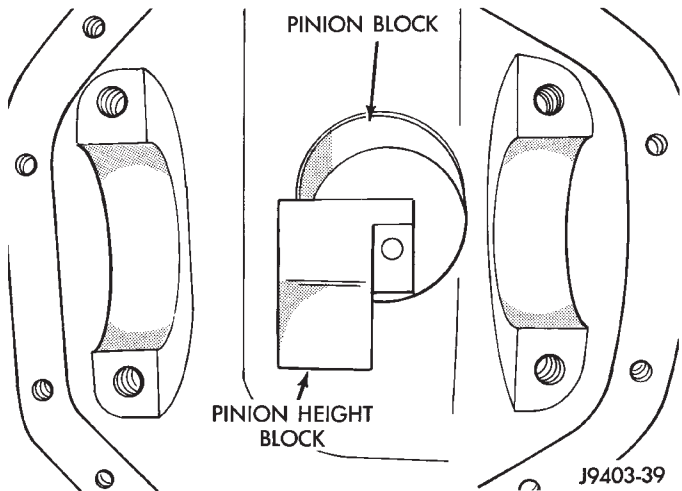

Fig. 43 Pinion Height Block—Typical
(2) Insert assembled height gauge components, rear bearing and screw into axle housing through pinion bearing cups (Fig. 43).